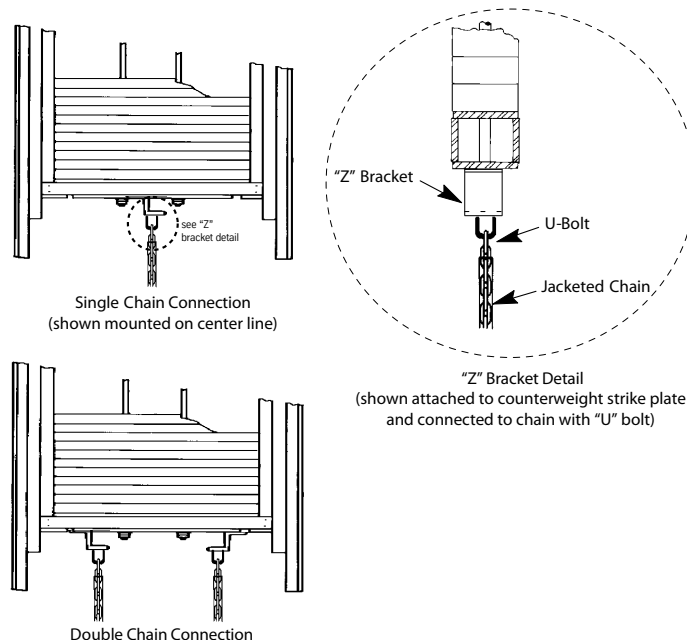

Figure 13 - Counterweight “Z” Bracket
2. Attach the “Z” bracket to the bottom of the counterweight frame strike plate. See Figure 13.